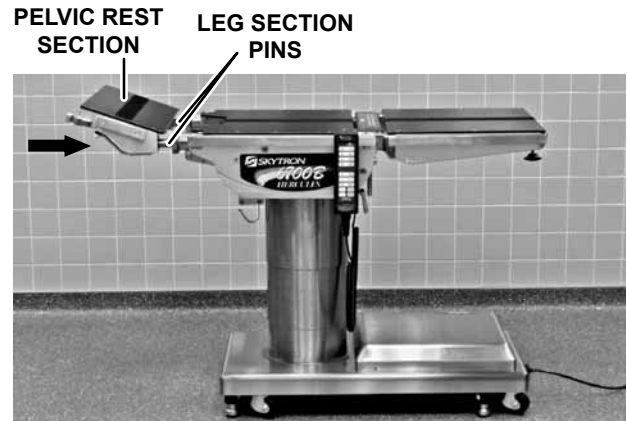

Figure 3. Pelvic Rest Assembly
1. Slide the pelvic rest onto the leg section pins until it rests against the leg pin collars and the release levers engage in the grooves in the leg pins (Figure 3). Pull out on the pelvic rest to verify that it is secured on the leg section pins.